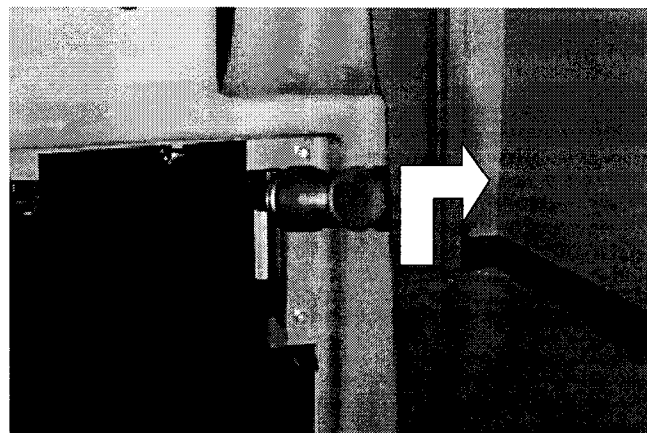

FIG. 2.
5. Raise brush lift lever and engage lock block. (*Figure 2*)